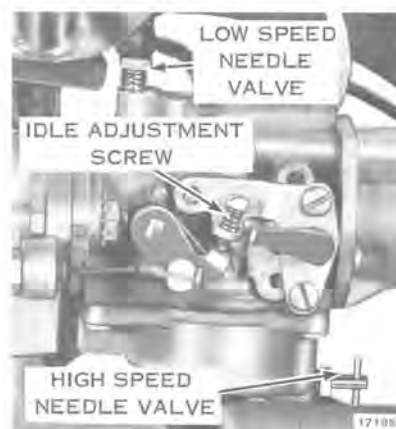

Figure 5-4
1. Turn high speed needle valve in until lightly seated. Back out (counterclockwise) one turn. See Figure 5-4.
(See Figure 5-4)